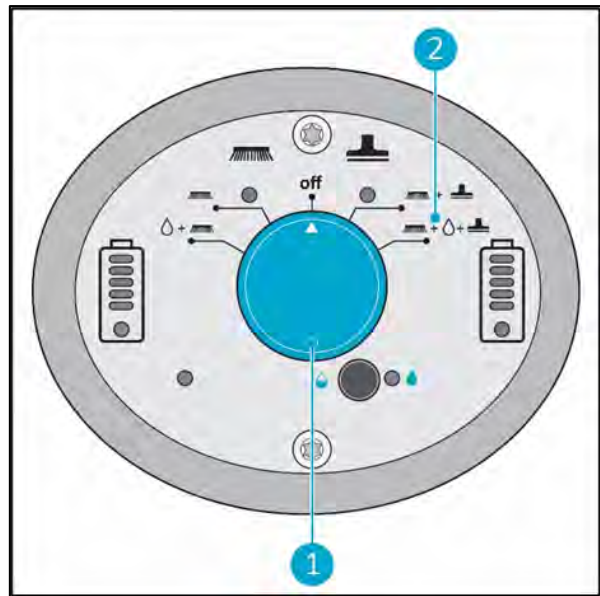

Figure 22
2. Use the i-mop® XL Basic main switch (Figure 22, pos 1) and choose MODE 4 Brush + Water/Cleaning solution + Dry vacuum (Figure 22, pos 2).